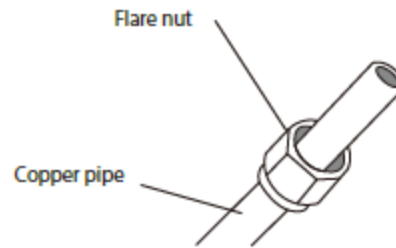

Fig. 6.3
3. Place flare nuts on both ends of pipe. Make sure they are facing in the right direction, because you can't put them on or change their direction after flaring. See Fig. 6.3.